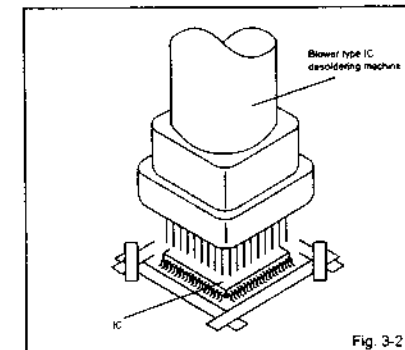

Fig. 3-2
- Heat the IC leads using a blower type IC desoldering machine. (Refer to Fig. 3-2.)